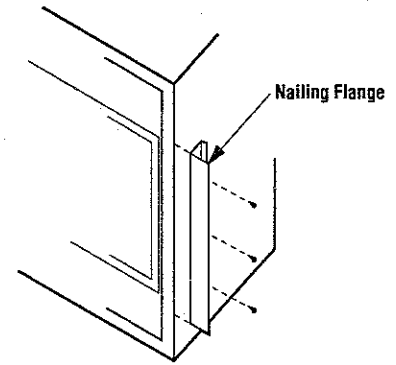

Figure 9
Step 3. The nailing flanges are installed at each side of the appliance backwards when shipped from the factory, to protect the unit from shipping damage. Remove the nailing flanges from the appliance and install in place (as shown in *Figure 9*) with three (3) screws each. Align with the three holes on each side of the appliance, ensuring that the face of the flange is in a plane ½" behind the appliance front face.